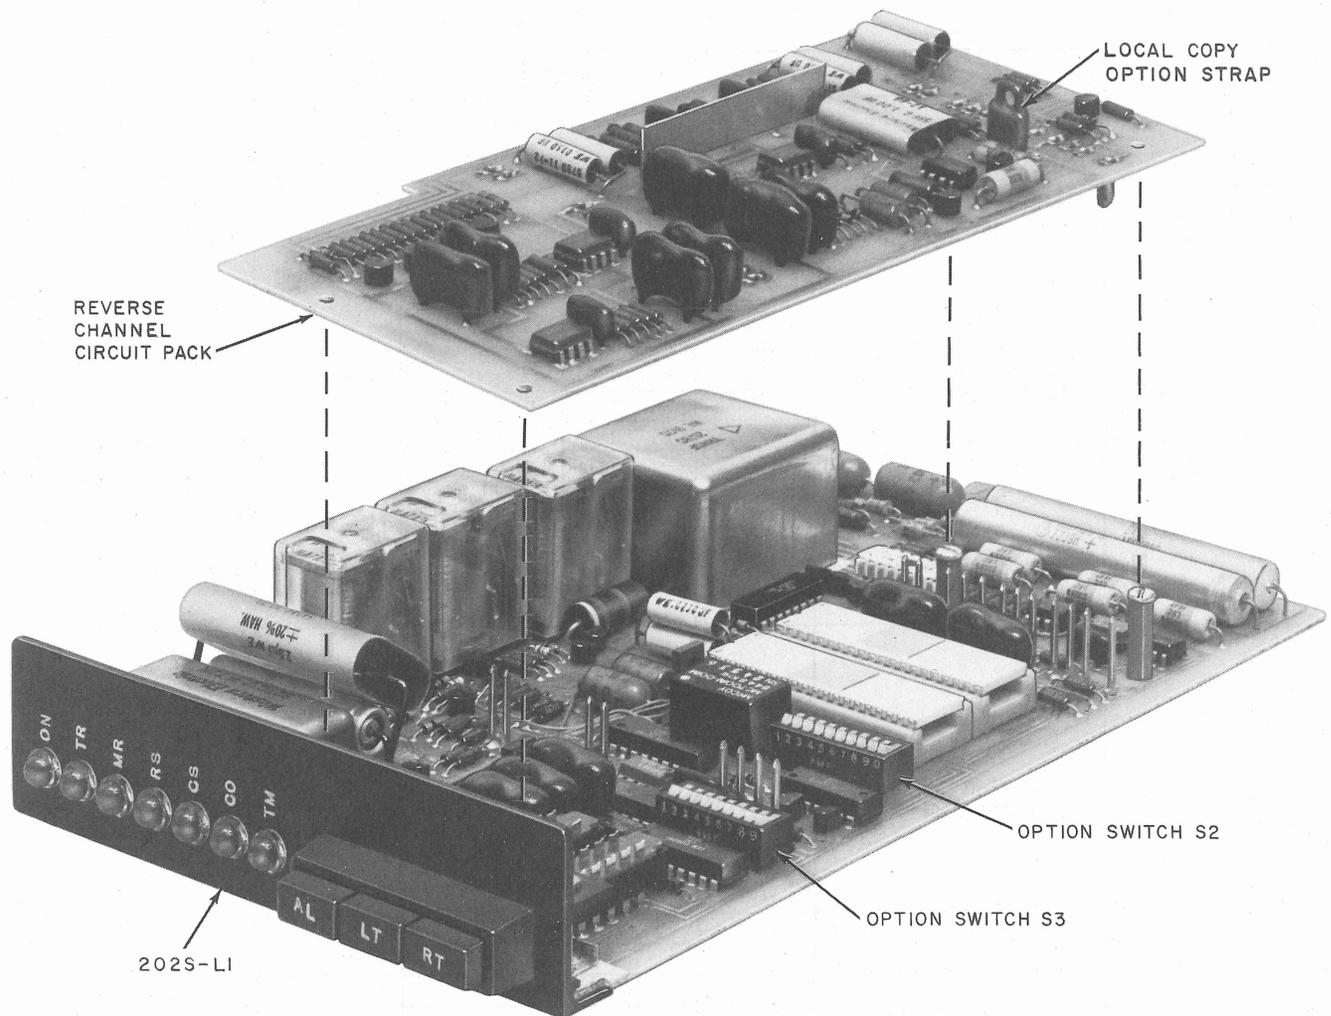

Fig. 5—Data Set 202S-L1/3 (L1A/3A is Similar)
**3.08** The reverse channel CP adds a /3 or /3A to the data set list code (Fig. 5). The board assembly measures 1 inch high, 3.4 inches wide, and 7.5 inches long. It includes filters, switching circuits, and demodulator circuits needed to perform the reverse channel function. Interconnection between the data set and reverse channel is
**3.09** When installed, the reverse channel CP makes option switches S2 and S3 inaccessible; therefore, it must be removed to set the transmit level and customer options. The reverse channel local copy option is selected by proper positioning of the jumper plug on the reverse channel CP as shown in Fig. 5. If option D is installed (reverse channel OUT), the reverse channel CP must be removed.